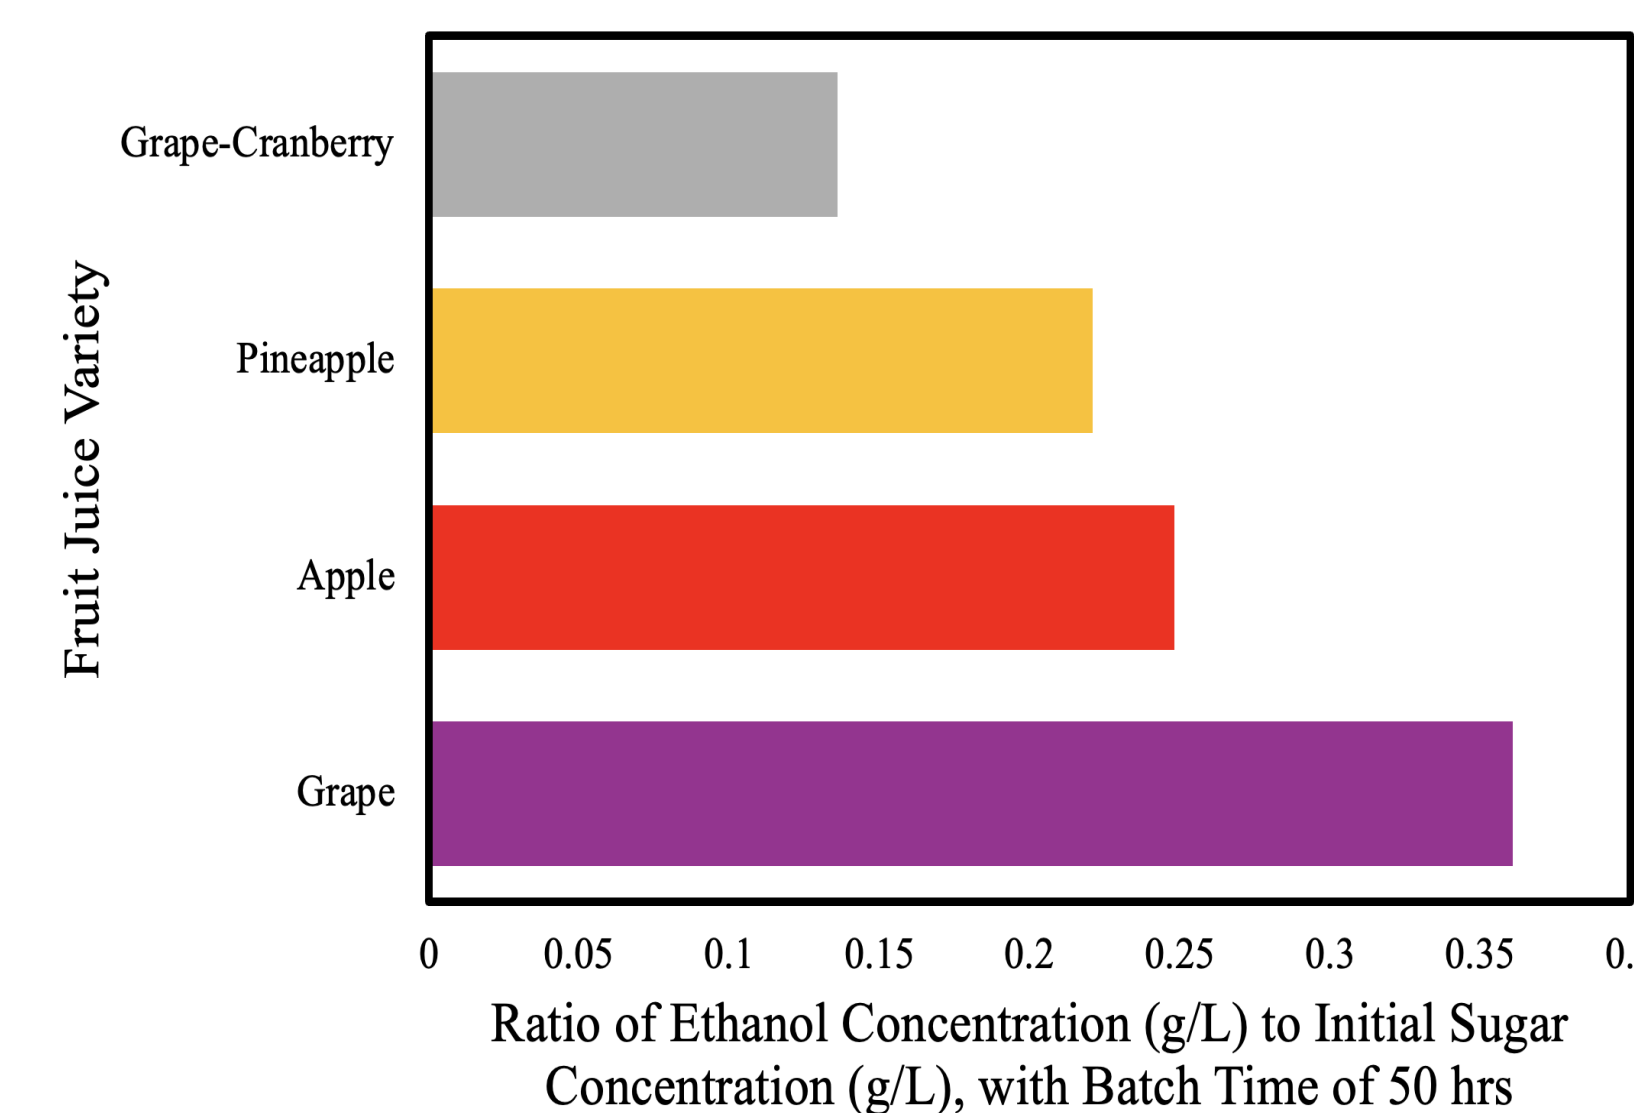

Figure 6. Ratio of final ethanol concentration (g/L) to initial sugar concentration (g/L) for each fruit juice variety, with a batch time of 50 hours
- We also can compare the productivity of this batch time to the other two juices in Fig. 6, and we see that grape juice is still superior